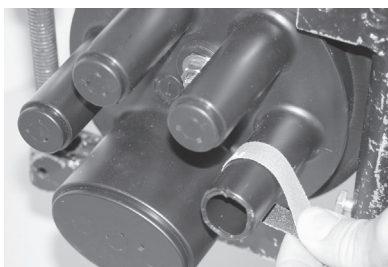

Figure 4
3. Clean and abrade port with tape abrasive. (Figure 4)